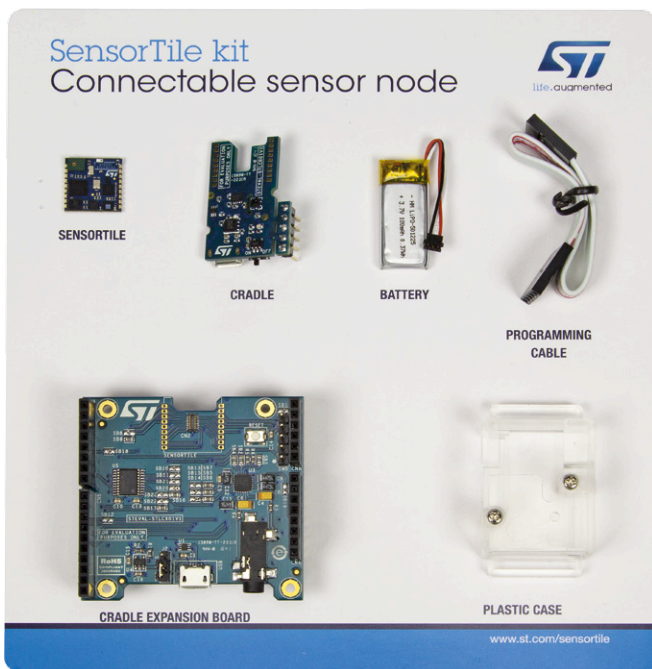

Figure 4. The SensorTile kit and its accessories.
STMicroelectronics (ST) has recently brought to market an very interesting kit called SensorTile [4], priced at around US\$80 (Figure 4). The device is the size of a coin and is based on an STM32L476 microcontroller (Cortex-M4F, 80 MHz, 1 Mbyte flash). It includes a BlueNRG-MS device for BLE communications, a microphone, a barometer, an accelerometer, a gyroscope and a magnetic field sensor. The most important connections are